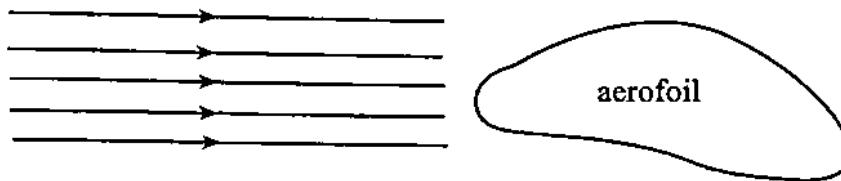

Fig. 4.1
- (b) Fig. 4.1 shows a flowing fluid and an aerofoil.
- (i) On Fig. 4.1,